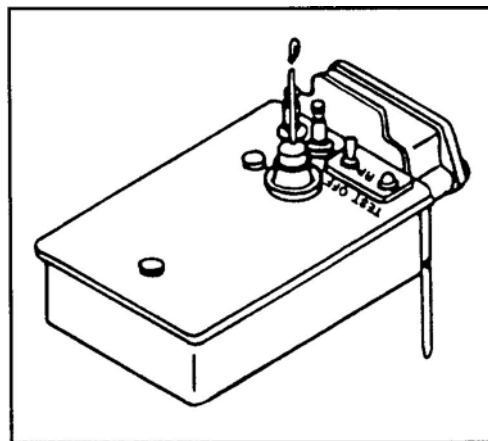

Figure 16. Detector ground stakes.
- c. Install the ground stake (Figure 16). Screw the ground stakes (2) into the bottom of the detector.